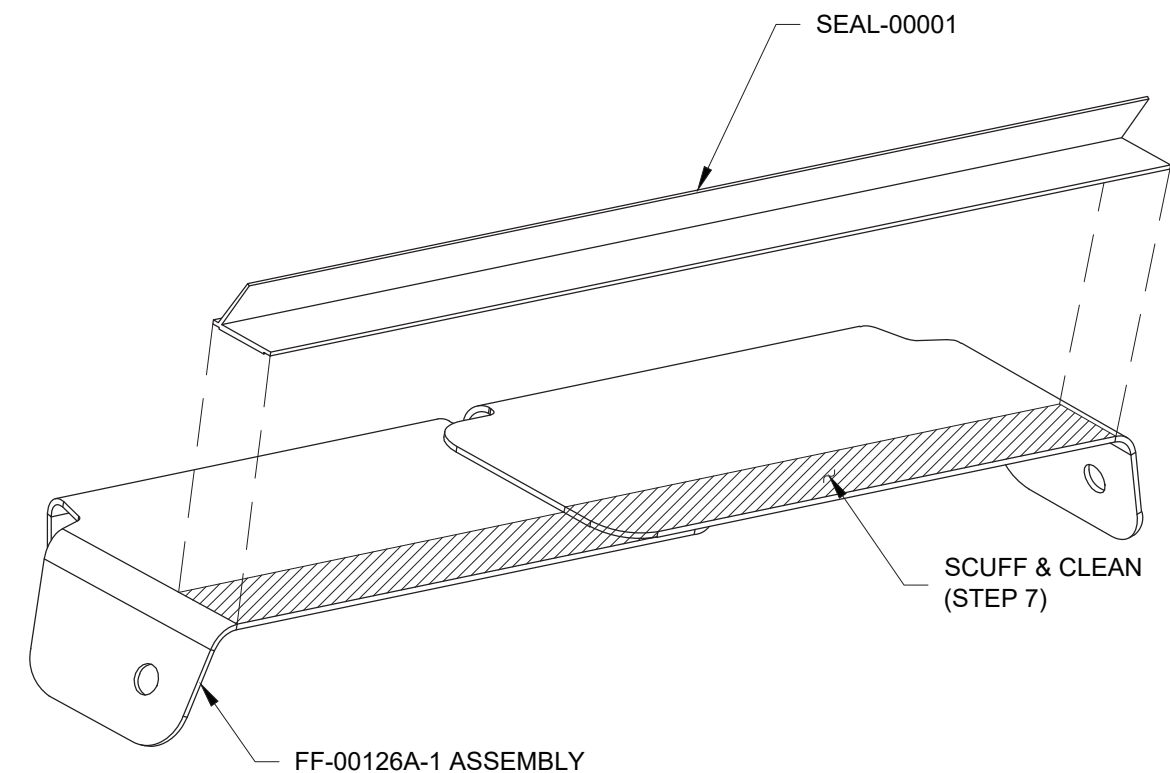

FIGURE 2: INSTALLING THE SEAL
Step 7: Scuff with Scotchbrite, then clean with denatured alcohol, an area on the FF-00126A-1 Assembly as shown in Figure 2. Attach a 6 in. [15.2 cm] long piece of SEAL-00001 as shown in Figure 2 to create the FF-00126A-1 Oil Cooler Cover.